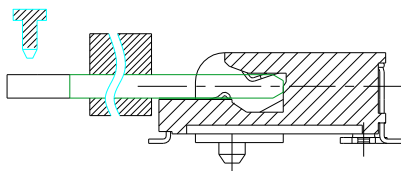
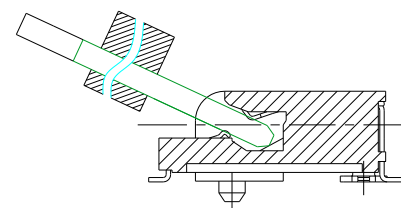

Fig. 7.1
Fig. 7.2
**Step 1st:** Loose the screw by hand (see Fig. 7.1), and module will be rotated automatically due to connector contact's counterforce at the same time (see Fig. 7.2).